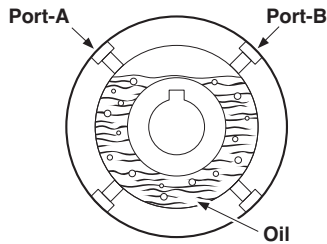

Figure 1
1. Rotate the clutch outer race to locate two oil ports at positions (A) and (B) as shown in (Figure 1).